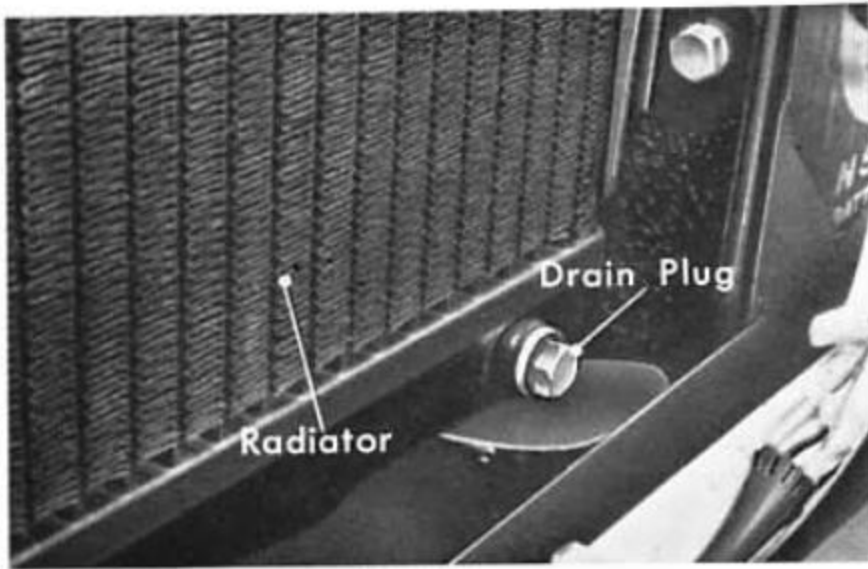

Fig. 21-46
1. Drain the radiator water by loosening the drain plug (Fig. 21-46), refill with clean water and operate the engine for about five minutes and then drain, repeating this operation several times. If the water temperature is high, caution should be taken when removing the radiator filler cap, loosen the filler cap slowly and allow pressure to escape before removing the cap, otherwise, hot water will gush out.